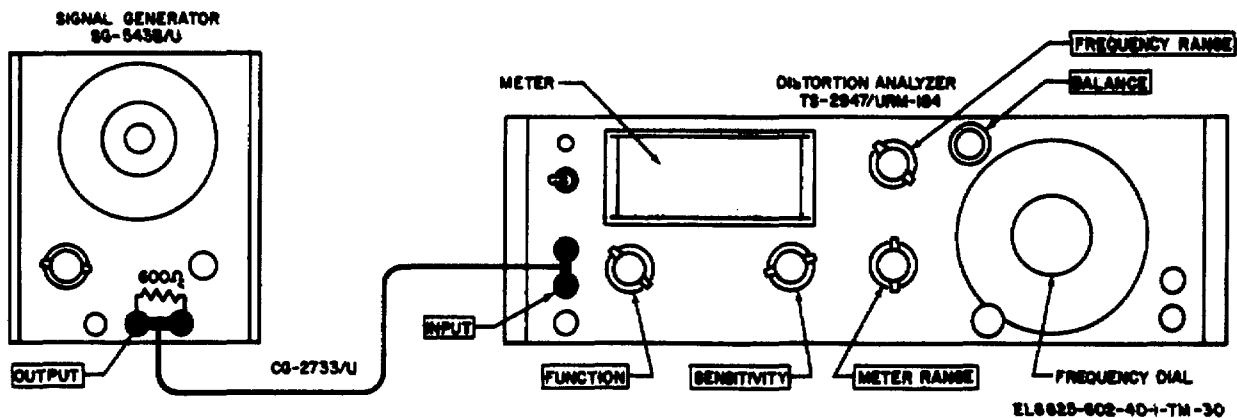

Figure 5-3. Generator, Signal SG-543B/U distortion test.
- b. *Test Connections and Conditions.* Connect the equipment as shown in figure 5-3.